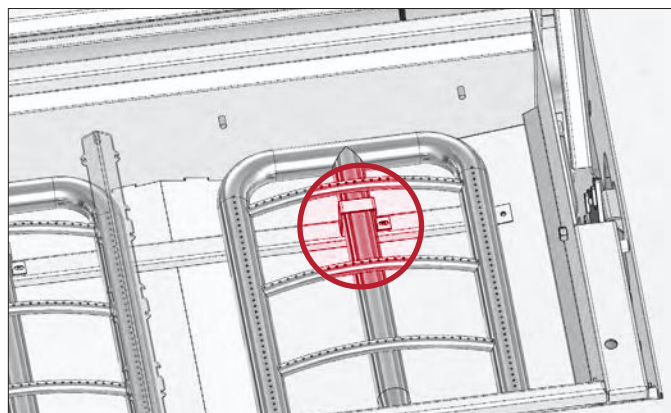

Fig. 1. Shipping bracket location.
2. If present, remove the shipping bracket. **See fig. 1.**